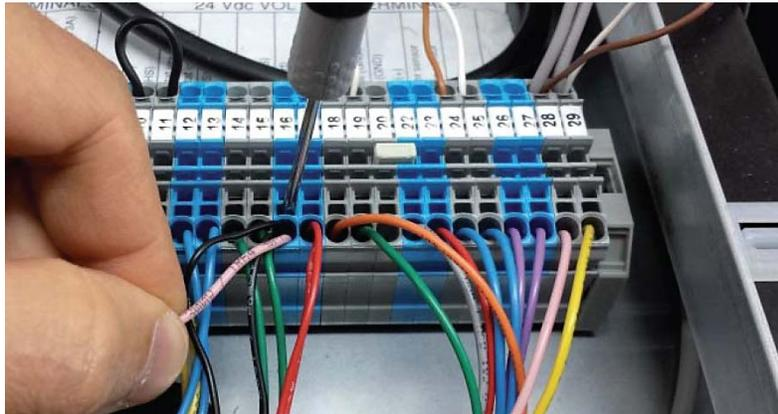

Figure 1-12: Connecting Pink Wire to Terminal #16
6. Connect the pink wire together with the two black wires present on terminal #16 (See Figures 1-12).